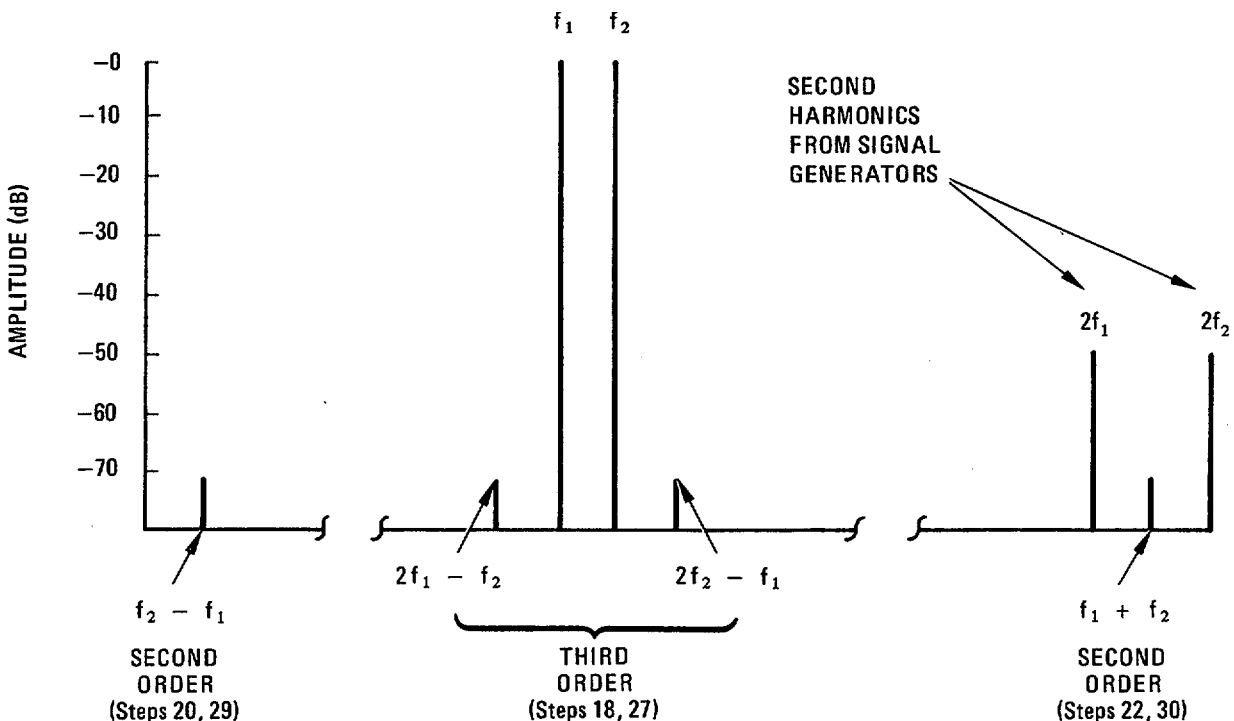

Figure 4-15. Intermodulation Distortion Products
18. Reduce spectrum analyzer RESOLUTION BW to 3 kHz and check for third order intermodulation distortion products at approximately 3 divisions to either side of center graticule line (see NOTE below). They should be more than 70 dB below input signals (-100 dBm on spectrum analyzer display). (See Figure 4-15.)
20. Set spectrum analyzer TUNING to 1 MHz and momentarily press FREQUENCY CAL switch. Set RESOLUTION BW to 3 kHz and adjust VIDEO FILTER as necessary for more than 70 dB display range. Check for second order intermodulation distortion product ($f_2 - f_1$) near center of display (see NOTE below). Second order intermodulation distortion product should be more than 60 dB below the total applied signal (-100 dBm on spectrum analyzer display). (See Figure 4-15.)
- 22. Check for second order intermodulation distortion product ($f_1 + f_2$) between $2f_1$ and $2f_2$ signals (see NOTE below). Set RESOLUTION BW to 3 kHz and adjust VIDEO FILTER as necessary for more than 70 dB display range. Second order intermodulation distortion product should be more than 70 dB below total applied signal (- 110 dBm on spectrum analyzer display). (See Figure 4-15.)
29. Set spectrum analyzer TUNING to 1 MHz and momentarily press FREQUENCY CAL switch. Set RESOLUTION BW to 3 kHz and adjust VIDEO FILTER as necessary for more than 70 dB display range. Check for second order intermodulation distortion product ($f_2 - f_1$) near center of display (see NOTE below). Second order intermodulation distortion product should be more than 60 dB below total applied signal (-100 dBm on spectrum analyzer display). (See Figure 4-15.)
30. Set spectrum analyzer TUNING to 8 MHz and check for second order intermodulation distortion product ($f_1 + f_2$) between $2f_1$ and $2f_2$ signals. (See figure 4-15.) Second order intermodulation distortion product should be more than 60 dB below total applied signal (- 100 dBm on spectrum analyzer display). (See NOTE above.)